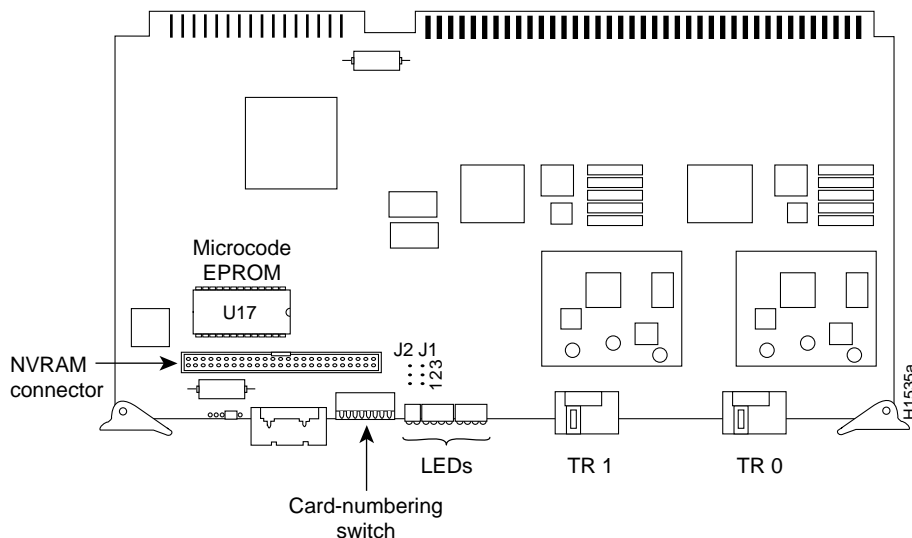

Figure 4 STR Card (CSC-2R Shown)—Component-Side View
- Step 3** Disconnect the Token Ring cable(s) attached to the STR card and remove the card; place it on an antistatic mat or antistatic foam. Orient the card as shown in Figure 4 (the CSC-2R card is shown—the EPROM on the CSC-1R is in the same location on the card).
- Step 4** Referring to Figure 4, locate the EPROM (socket location U17) on the right side of the card, just below the 50-pin connector.